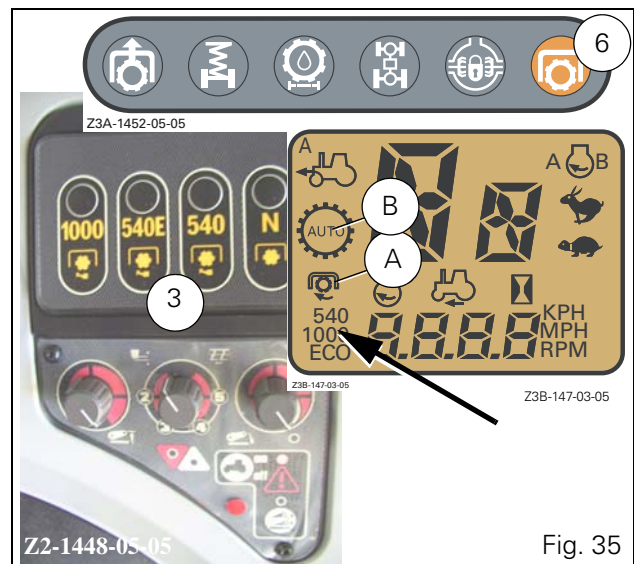
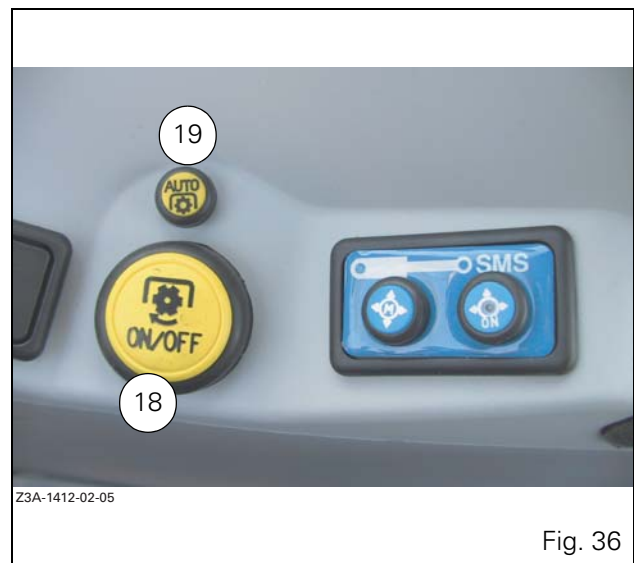

Fig. 35
Fig. 36
The power take-off (PTO) is operated independently of the transmission. 540 rpm, 540E rpm and 1000 rpm speeds can be obtained by selecting the appropriate speed with the buttons Ref. 3 (Fig. 35). The relevant display appears on the digital display and the instrument panel indicator light Ref. 6 flashes.
Press the ON/OFF control button (18 Fig. 36). The power take-off engaged indicator light (6 Fig. 35) stops flashing and remains lit permanently. An engaged symbol appears simultaneously on the digital display (A Fig. 35). The clutching process depends on the length of time the push button is pressed down.
To stop the power take-off, press the push-button (18 Fig. 36) again.
1. Selected a power take-off speed and then press the power take-off engaged control button (18 Fig. 36). The power take-off engaged indicator light (6 Fig. 35) remains permanently lit.
3. Press the automatic mode engaged button (19 Fig. 36). The AUTO symbol appears on the digital display (B Fig. 35).
As soon as the linkage is in Lift position, the power take-off stops automatically and the indicator light (6 Fig. 35) flashes.
To re-engage the power take-off, activate the button (18 Fig. 36) in the cab or the external control button (G) for at least 6 seconds.